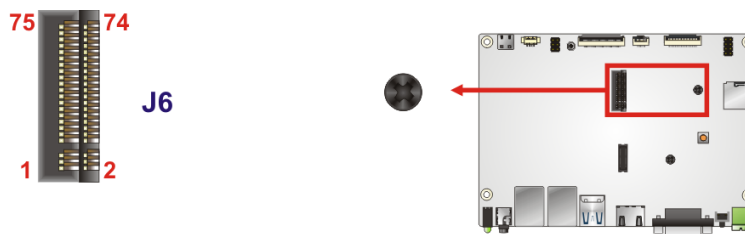

Figure 3-5: LTE Module Slot Location
- CN Type:** M.2 B-key 2242 slot
- CN Location:** See **Figure 3-5**